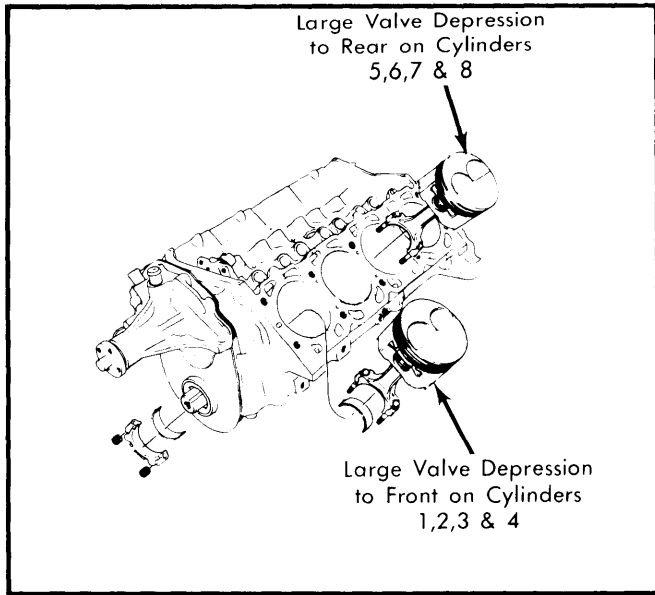

Fig. 8 Piston Installation
2) On cylinders 1, 2, 3 & 4, the larger valve depression goes toward the front of engine. On cylinders 5, 6, 7 & 8, the larger depression goes toward rear of engine. See Fig. 8.